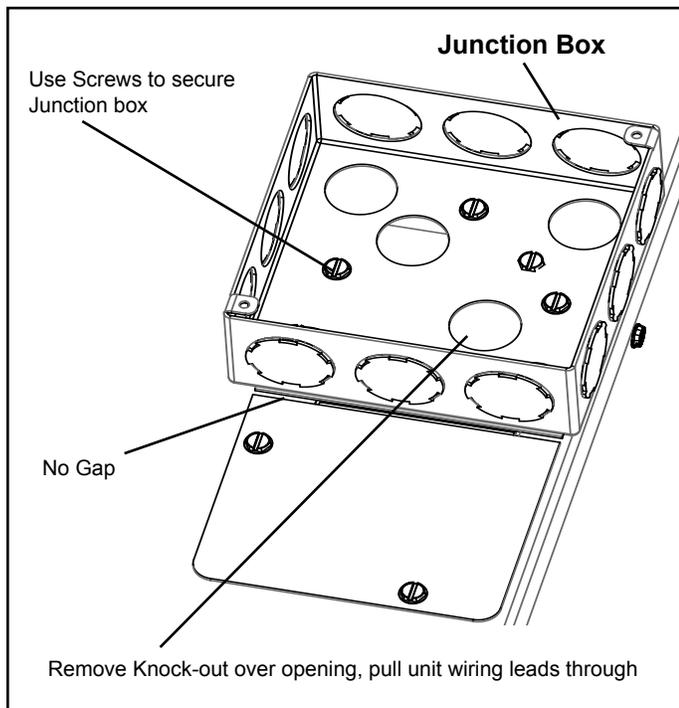

Figure 5.
2. Position a 4x4 junction box over the opening as shown in Figure 5. Make sure the junction box is pulled up against the front cover so that there is no gap. Remove a knock-out in the box to allow the unit wiring leads